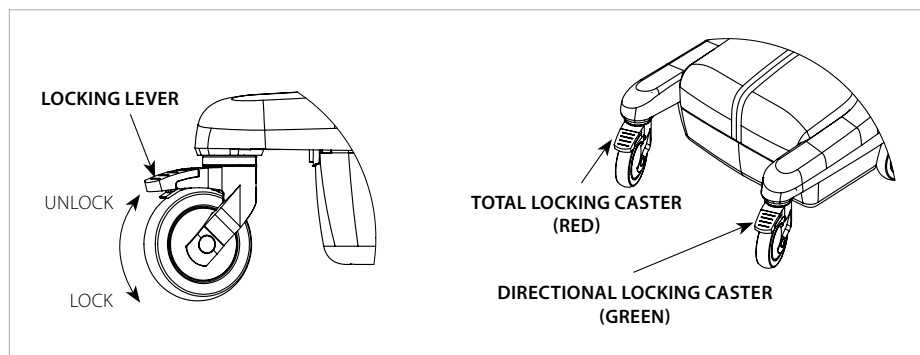

Figure 1
1. Lock the **CASTERS** by stepping on the **LOCKING LEVER** (on each **CASTER**) such that it clicks in the down position (**Figure 1**).